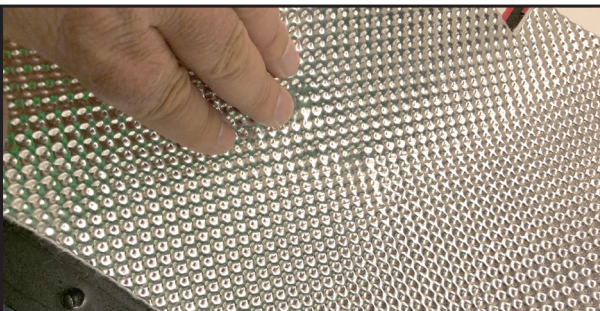

Fig 6
STEP 9. Remove the rest of the liner and press firmly into place. **Fig 6**